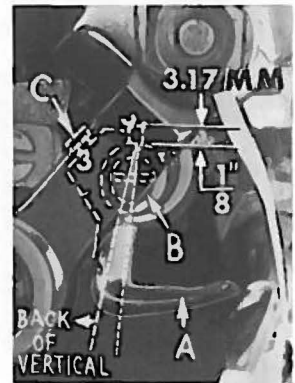

Fig. 8
Insert upper looper (A, Fig. 8) in its holder. Screw (B) holds the upper looper in its holder and permits it to be pushed in or out, or turned around its shank. Insert upper looper holder into upper looper shaft, if it is not already in place. Screw (C, Fig. 8) in clamp holds the upper looper holder in the shaft. Locate upper looper in its holder so that the shank extends  $1/8$  inch (3.17 mm) beyond holder (Fig. 8), for Styles 39500 RG and RH;  $1/16$  to  $3/32$  inch (1.59 to 2.38 mm) for Style 39500 QW.
When the upper looper is at the right end of its stroke, upper looper holder should be set to position upper looper shank slightly back of vertical (Fig. 8).